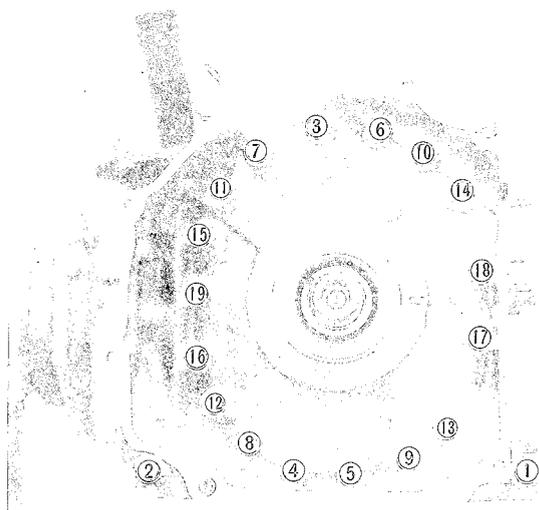

Fig. 1-14 Tension bolts loosening order
2. Loosen the tension bolts in the sequence shown in Fig. 1-14, and remove the tension bolts.